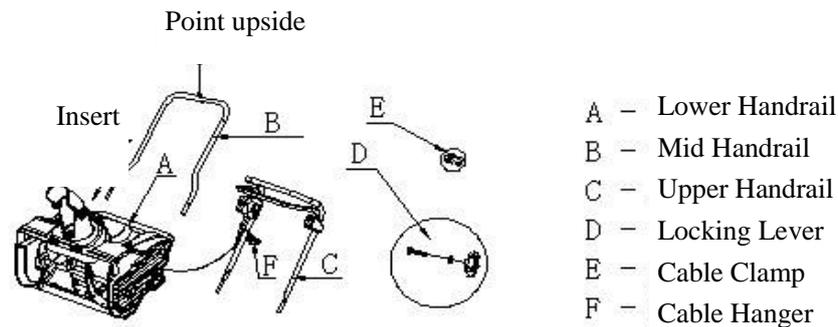

Fig. 4
3.2.1 Mount the mid handrail: Take up part B of Fig. 4, make the support sleeve end of the rocker point upside and insert it into part A of Fig. 4 until bolt holes are aligned; take up saddle bolt of the component as shown in Fig. 4 and insert it into bolt hole on the handrail from inside; place a saddle washer through the bolt, mount the locking lever, and rotate to tighten them up. See Fig. 5-a and Fig. 5-b.
3.2.2 Mount the upper handrail: Take up part C of Fig. 4, and pass it through part F as shown in Fig. 4 and then part B of Fig. 4 also in the same manner until bolt holes are aligned; take up the assembly D and insert the saddle bolt from inside, place a saddle washer through the bolt, mount the locking lever, and rotate to tighten them up. Make sure these components are reliably connected.
3.3 Mount Cable Clamps: Take part E of Fig. 4 and use the to secure the power cord on sleeves respectively from the lower handrail to mid and upper handrails as shown in Fig. 5-c.